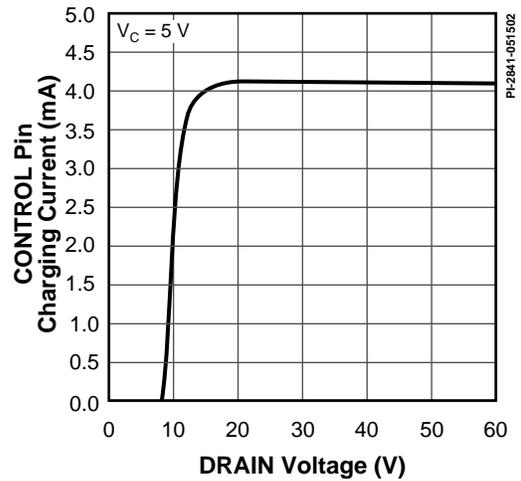

Figure 44.  $I_C$  vs. DRAIN Voltage.
- D. It is possible to start up and operate *DPA-Switch* at DRAIN voltages well below 16 V. However, the CONTROL pin charging current is reduced, which affects start-up time, auto-restart frequency, and auto-restart duty cycle. Refer to Figure 44, the characteristic graph on CONTROL pin charge current ( $I_C$ ) vs. DRAIN voltage for low voltage operation characteristics.